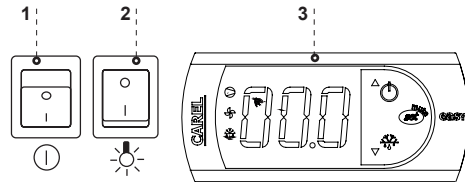

Fig.11 Device control panel
- Turn on the main switch Fig.11/1 (p.17), which activates the temperature regulator, and then aggregate of the device
- Set the temperature on thermostat control panel Fig.11/3 (p.17) (thermostat service details on p.21 or 22)
- Turn on the lighting switch Fig.11/2 (p.17)